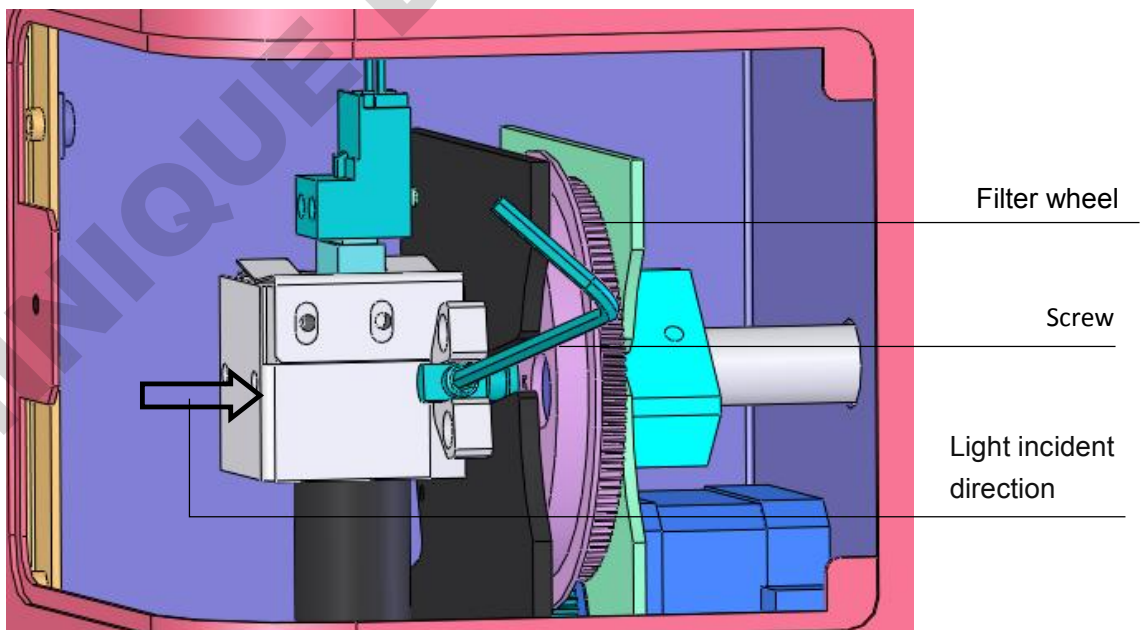

fig 58
- a. Loosen the knob to open the back door, take out the optical filter wheel by the equipped allen wrench(Fig 58).